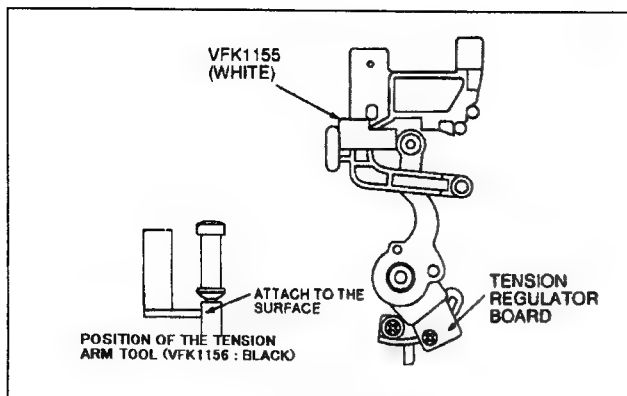

Fig. E16
2. Set VFK1155 (white) on the Supply Post Base (A) as shown in Figure E16.